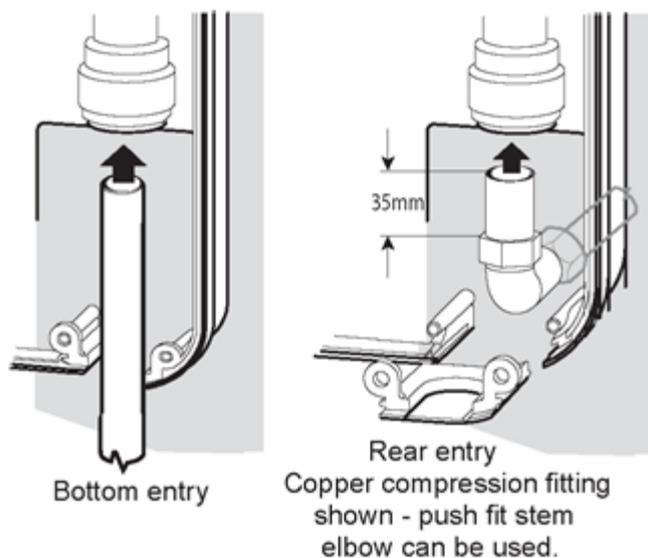

Figure 11 Pipe connection
5.9 The handwash has been designed for a 15mm water pipe using the pushfit connection - see figure 11.
5.17 Connect the cold water supply pipe to the inlet of the handwash, this is a push fit - see figure 11.